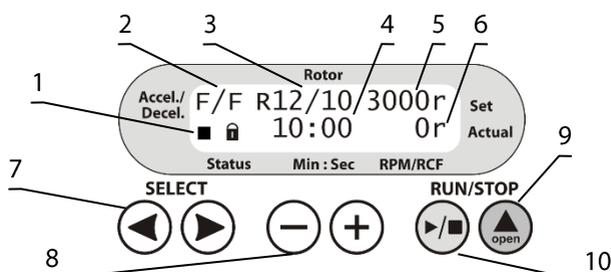

Figure 4. LMC-3000 control panel
- Check the power cord for any signs of damage. Connect the power cord to a properly grounded mains socket. Set the power switch on the unit to position **I** (on). Press the **▲ Open** key (fig. 4/9 or 5/11) and lift the lid by hand.
- Acceleration and deceleration modes (fig. 4/2 or 5/2);
- Rotor selection (fig. 4/1 or 5/1);
- Set rotor speed in RPM or RCF* (fig. 4/6 or 5/6);
- Status icons of rotor, ■ stopped or ► running (fig. 4/1 or 5/1, first symbol);
- Status icons of lid, ■ closed or ◻ open (fig. 4/1 or 5/1, second symbol);
- Set time of centrifugation, in minutes and seconds (fig. 4/4 or 5/4);
- Actual rotor speed, in RPM or RCF (fig. 4/6 or 5/6);
- 5.4. Press the **▲ Open** key (fig. 4/9 or 5/11) and lift the lid by hand. Check the rotor and buckets for any signs of wear or corrosion and replace if necessary. Insert EVEN number of tubes/microtest plates in rotor one opposite another. The loading in the opposite tubes must be equal.
- 5.5. **Setting parameters.** Use the **SELECT** ◀ and ▶ keys (fig. 4/7 or 5/10) to choose a parameter and the – and + keys (fig. 4/8 or 5/9) to modify it. Selected parameter will be blinking. Program automatically saves any changes made after no keys are pressed for 2 seconds.
5.5.1. Acceleration modes (fig. 4/2 or 5/2, first letter). Three modes of acceleration are available, slow (shortened to **S**), normal (**N**) and fast (**F**).
5.5.2. Deceleration modes (fig. 4/2 or 5/2, second letter). Four modes of deceleration are available, free brake (**0**), slow (**S**), normal (**N**) and fast (**F**).
- 5.5.3. Installed rotor (fig. 4/3 or 5/3). Select the rotor that is currently installed in the centrifuge. Combinations of rotors, adapters and their maximum allowed speed is listed below in the Table 1.
5.5.4. Rotation parameters (fig. 4/5 or 5/5). Rotor speed can be set in RPM and in RCF, denoted after numeric value by **r** and **g**, accordingly. Values convert after changing units. RCF depends on selected rotor or adapters, as shown in Table 1.
5.5.6. Time setting (fig. 4/4 or 5/4). Select duration of centrifugation in minutes, step 1 minute.
5.6. Close the lid carefully and smoothly until a clicking sound is heard. Icon  appears on the display (fig. 4/1 or 5/1).
- 5.7. Press the **RUN/STOP** / key (fig. 4/10 or 5/12) to start centrifugation. Icon  (fig. 4/1 or 5/1) and actual speed (fig. 4/6 or 5/6) are shown in the lower line of the display. The timer (fig. 4/4 or 5/4) starts the countdown after set speed is achieved.